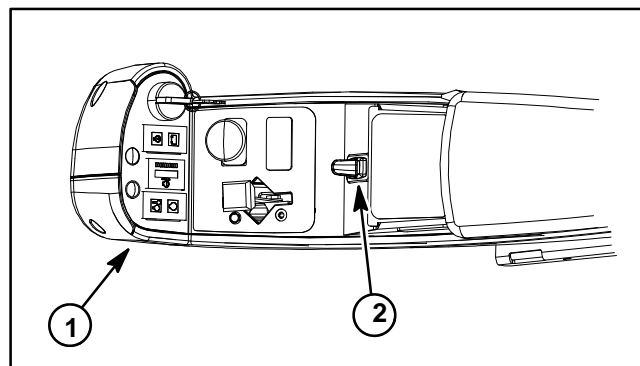

Figure 10
A single lift switch on the console arm is used to raise and lower the five (5) cutting units (Fig. 10). The lift switch acts as an input to the TEC controller to send electrical outputs to appropriate lift control manifold solenoid coils in order to raise or lower the cutting units.